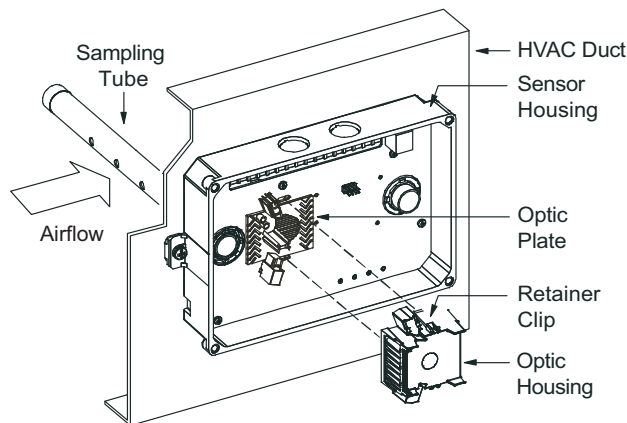

Fig. 44 — Sensor Cleaning Diagram
1. Disconnect power from the duct detector then remove the sensor's cover. See Fig. 44.